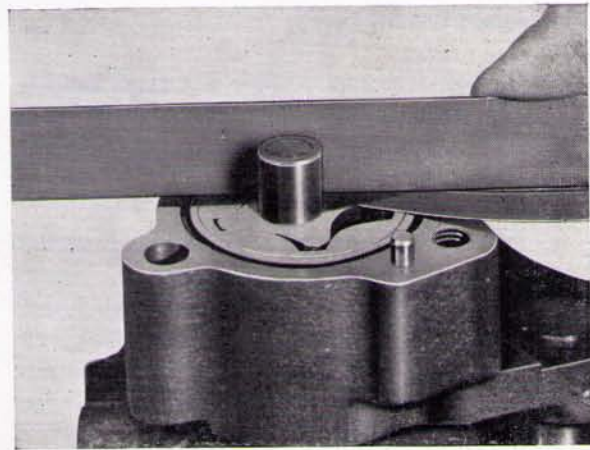

Fig. P.9.
4. Check the clearance between the top of the rotors and the surface of the pump body with a feeler gauge and straight edge. See Fig. P.9. If the clearance exceeds 0.003 in. renew the pump.